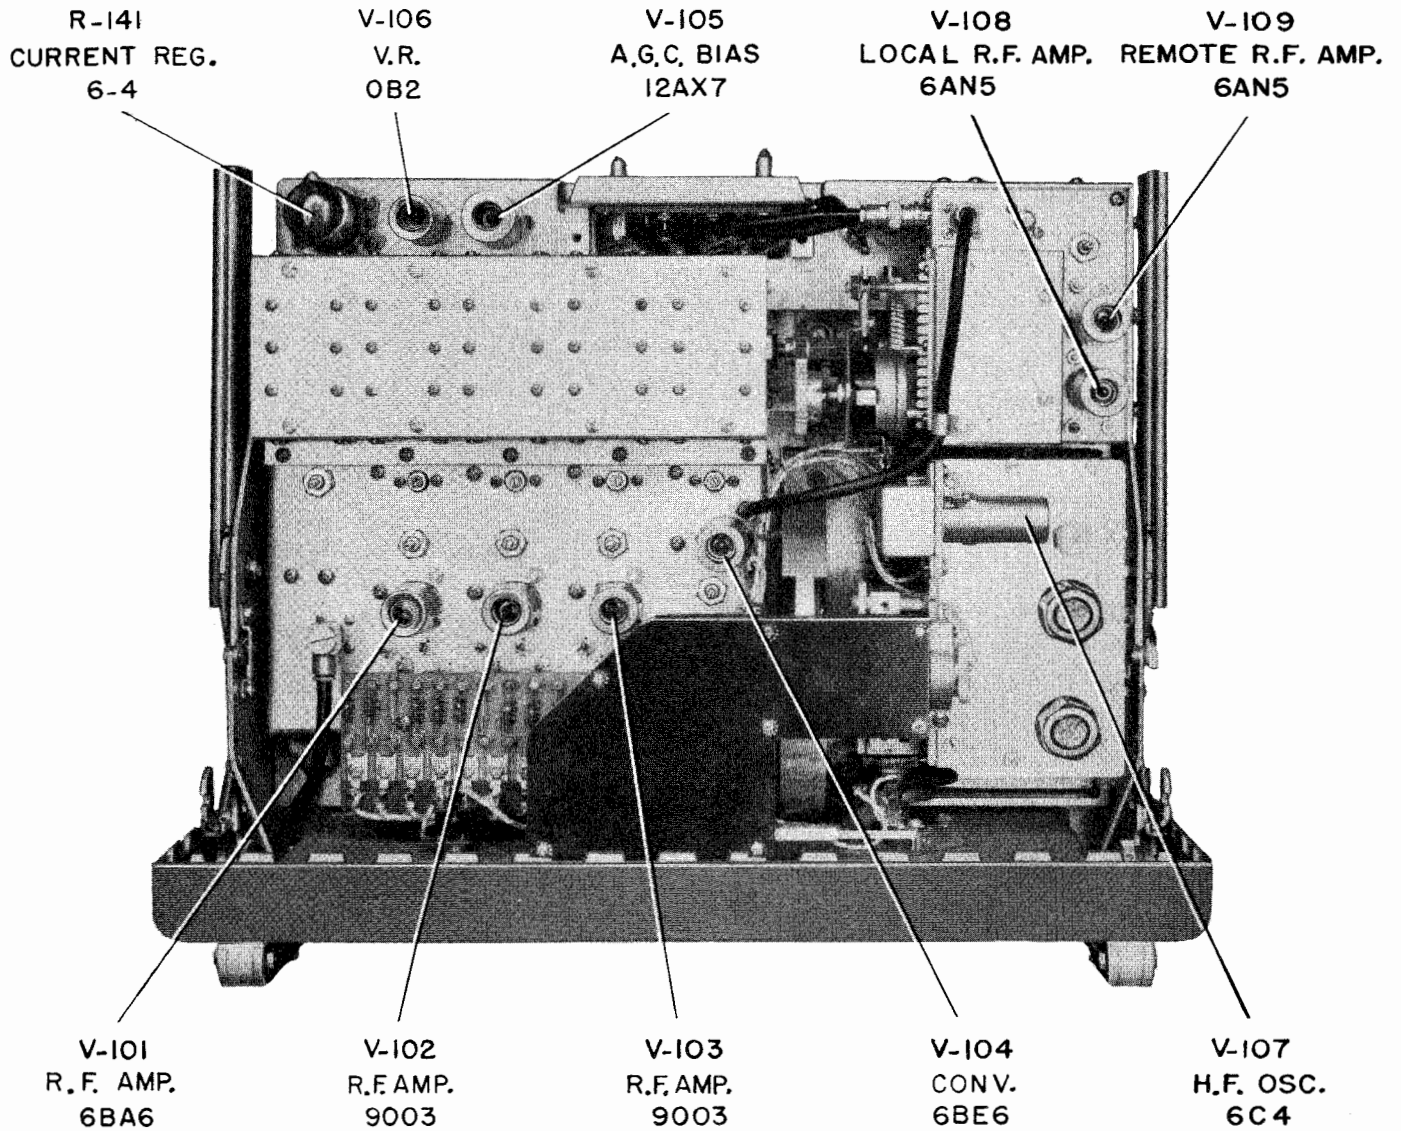

Figure 5-6. Tube Locations, Amplifier Converter AM-450, AM-451, AM-452, AM-453/FRR-24
(2) ELECTRON TUBES.—All electron tubes employed in the AN/FRR-24 Radio Receiving Set are located and identified on Figures 5-6 through 5-19. If a particular tube is burned out, as observed visually by the absence of filament glow, or by feeling the tube to determine its temperature, the tube can be re-